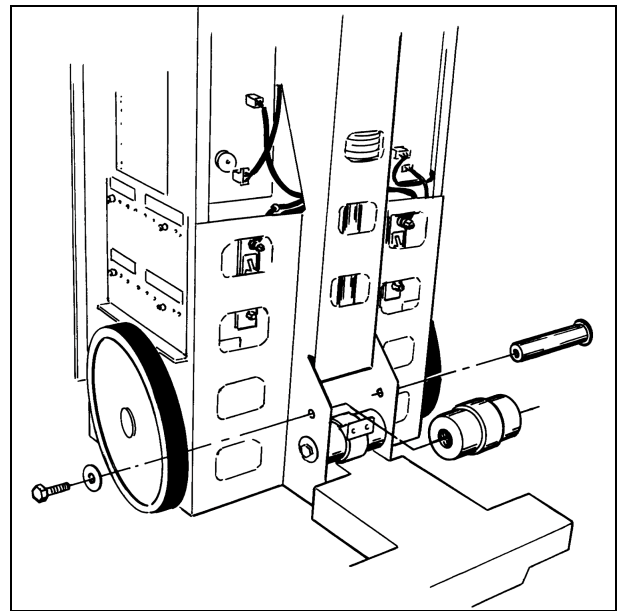

Fig. 28
- Remove the screw and washer from the upper counter bearing (Fig. 28).